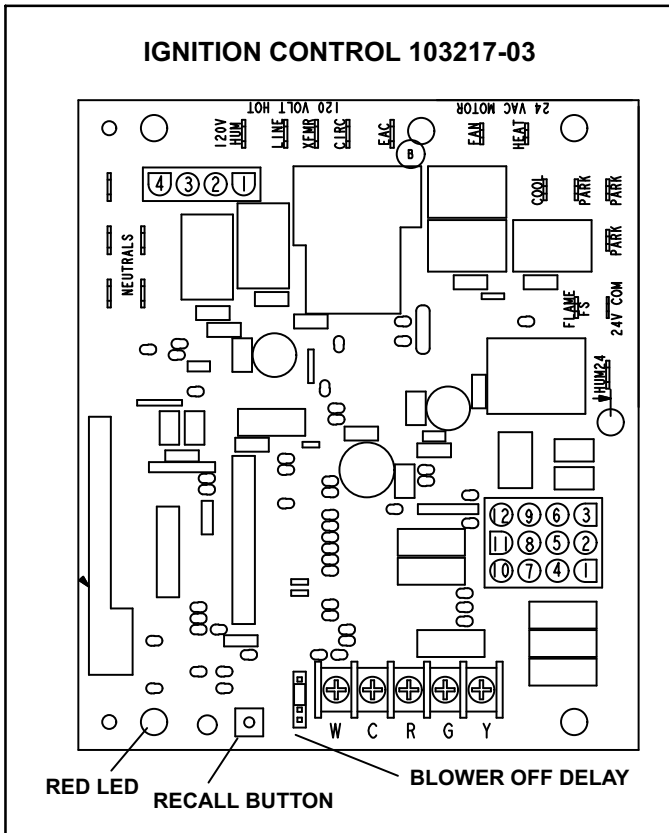

FIGURE 3
The hot surface ignition control system consisting of an integrated control (figure 3 or 5 with control terminal designations in tables 1, 2 and 3), sensor and ignitor (figure 6). The integrated control and ignitor work in combination to ensure furnace ignition and ignitor durability. The integrated control, controls all major furnace operations. The integrated control also features a RED LED for troubleshooting and two accessory terminals rated at (1) one amp. The nitride ignitor is made from a non-porous, high strength proprietary ceramic material that provides long life and trouble free maintenance.